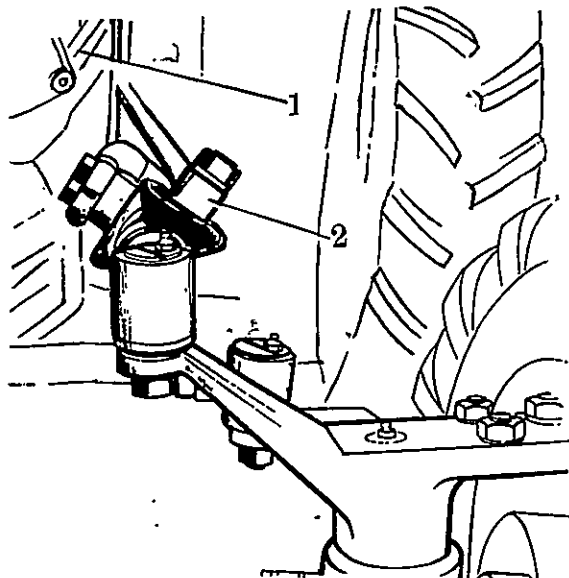

Fig.4-12
- 4). To avoid the acting ball end 2 from striking the lower bracket 1 of the dynamo as the front axle swings, at the mounting of the steering apparatus assy, make sure that the acting ball end 2 incline outward, never inward. (Fig.4-12)